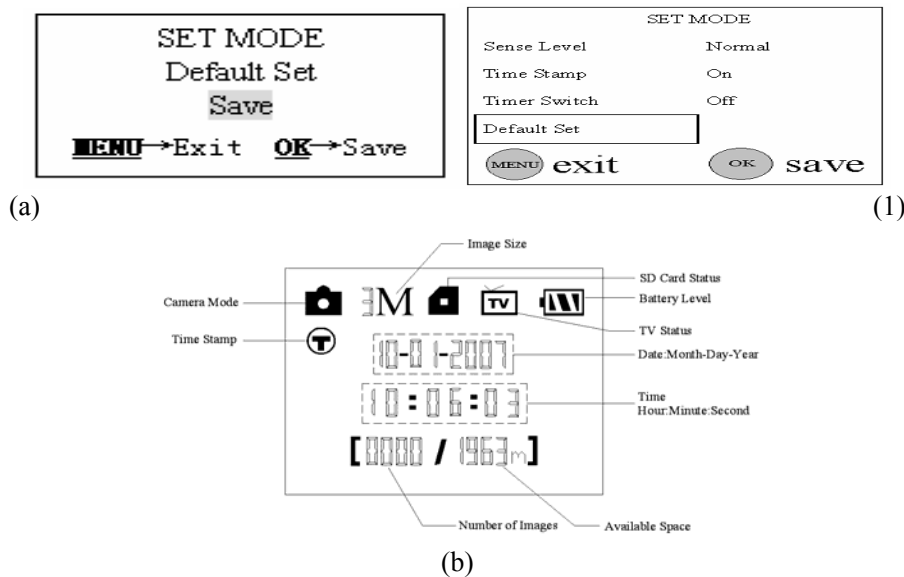

Figure 16: Load default settings
- 1 In MENU, press the UP or DOWN key until Default Set appears, as shown in Fig. 16(a) and 16(1).
- 2 Press the OK key to restore default settings or press the MENU key to cancel and exit. After pressing the OK key, the camera will be back to factory default settings (see Table 1). Fig. 16(b) shows the information after you press the OK key.